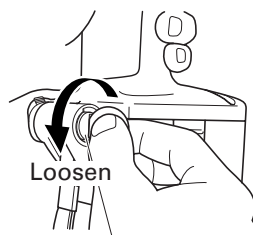

Fig. 6
- Securely hold the main unit and remove the screw using a slotted head screwdriver or a coin. (Fig. 6)
- (c) Install the hook and spring on the other side and securely fasten with screw. (Fig. 6)